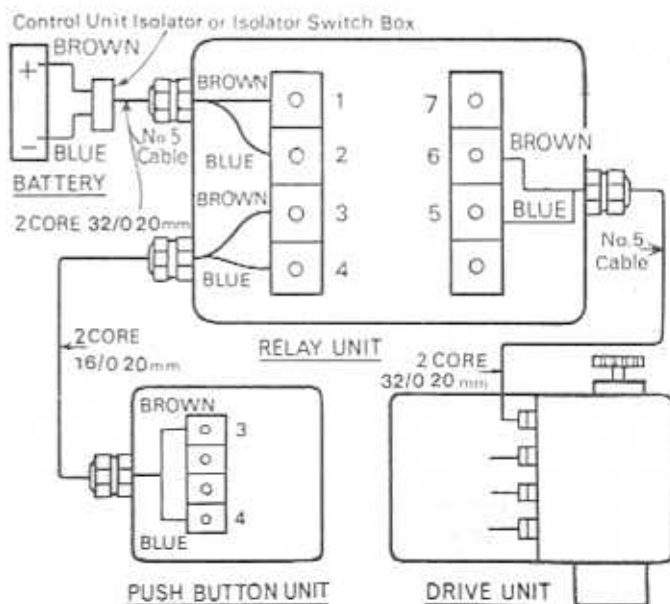

FIG. 11 CONNECTIONS FOR CRASH SWITCH MK.2.
- 3.11 'CRASH' SWITCH (if fitted) Disconnect the battery, cut the 2-core 1.0mm² 32/0.20mm cable No. 5 cable at the chosen position and connect the section of cable from the Control Unit Isolator into terminals 1 and 2 of the Relay Unit, connect the section of cable from the Drive Unit into terminals 5 and 6, and using a length of 0.5mm² 16/0.20mm link terminals 3 and 4 on the Relay Unit to terminals 3 and 4 on the Push Button Unit. Figure 11.